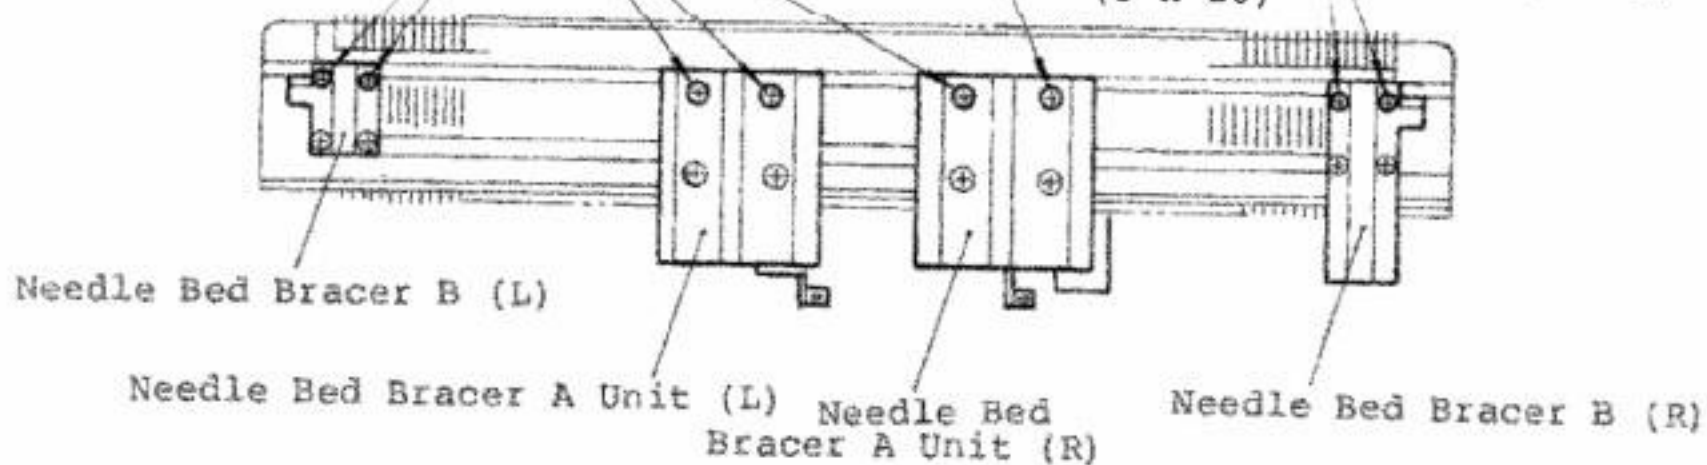

Fig. 86
- Insert a 1mm. thick steel plate between the Front Edge of the Needle Bed and the Sinkers, as shown in Fig. 86. While pressing downwards, push it in the arrow-marked direction and the Sinkers will be moved forwards. Repeat the above procedure for correct alignment of the Sinkers.